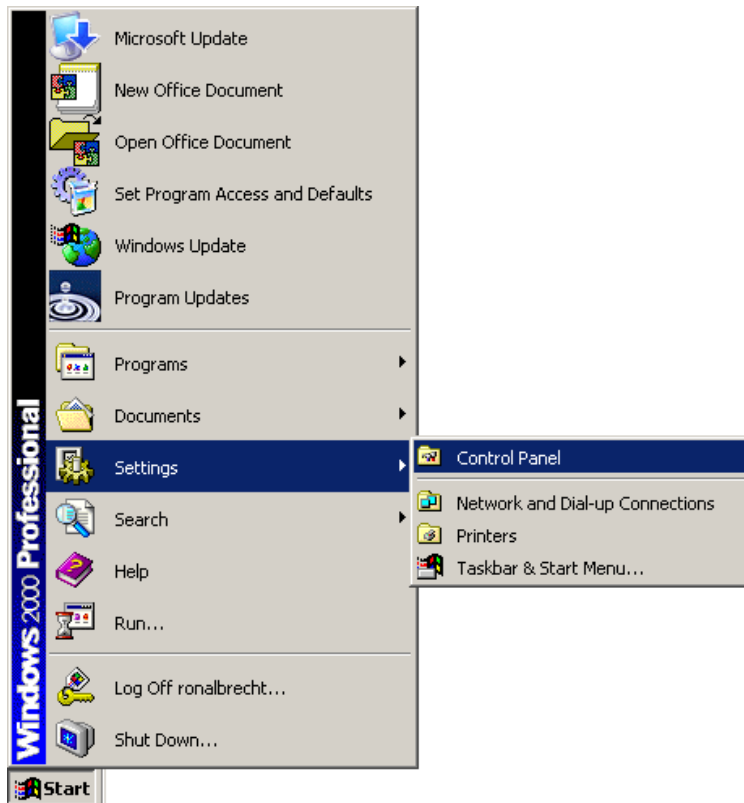

Figure 7-33: Windows Control Panel
Step 1: Open **Windows Control Panel** (Figure 7-33).